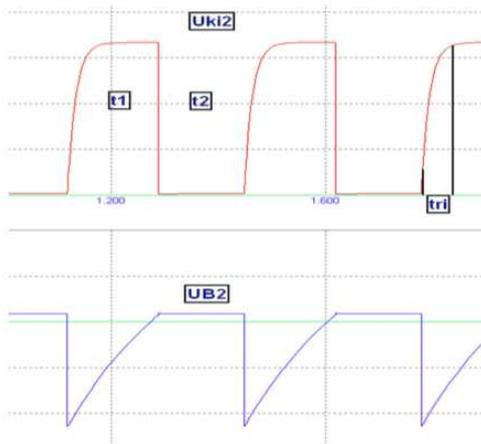

Figure 2
B_{\min} is the quotient of the Transistor's (working in saturation zone) collector and base current, which is (considering the transistors we use) approx. 20. In figure 2 t_{ri} transition time (the time between stage 10%-90%) approx. $t_{ri} \sim 2,2 R_3 C_1$ (5) big. The deceleration time is very steep, the value of it is related to the parameters of the transistor.
Let's graph the waveforms. Measure (from figure 2) the corresponding t_1, t_2, T time signals and the k duty cycle. Using correlation (2) and (3) define t_1 and t_2 and compare the measured and the calculated values.
Measure t_{ri} transition time using Figure 2. After, check if it matches the value calculated by correlation (5).
Lets leave one transistor's output on one channel of the oscilloscope, and to the other channel of the oscilloscope let's connect the same transistor's base. Let's graph the waveforms. Measure the U_B voltage in the positive range (on Figure 2.) with the oscilloscope DC mode.